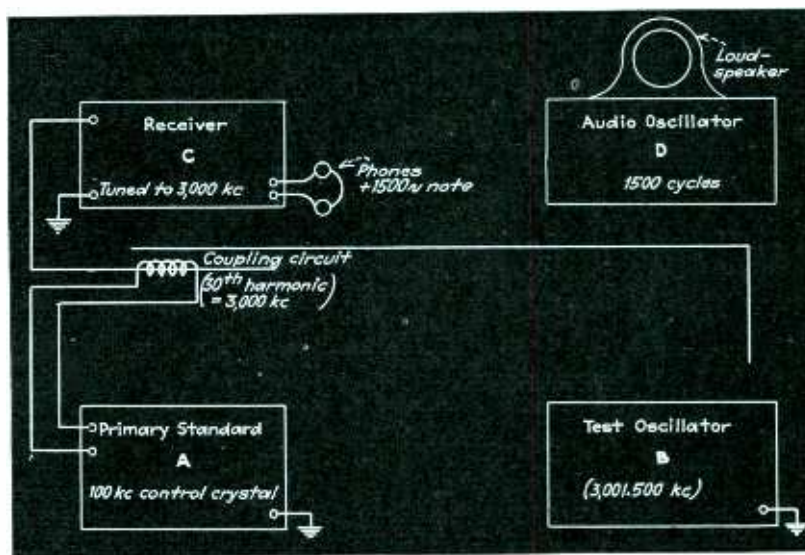

Fig. 4. Schematic diagram of measuring equipment
The additional equipment used for measurement is the primary frequency standard^{2,3,4,5}, a standard radio receiver, a precision audio oscillator, and a pair of headphones. (See schematic layout, Fig. 4.)
The schematic arrangement of the measuring equipment and the method of tuning is shown in Fig. 4. A rough calibration facilitates the accurate adjustment of the test oscillator (B) during the set-up and can be made by any of the standard methods of frequency measurement⁶. The frequency of the driving crystal in the primary standard (A) is 100 kilocycles². The test oscillator (B) with the sample of capacitance or inductance in place is therefore tuned within an audible beat to some frequency that is a multiple of 100 kilocycles². The frequency of 3,000